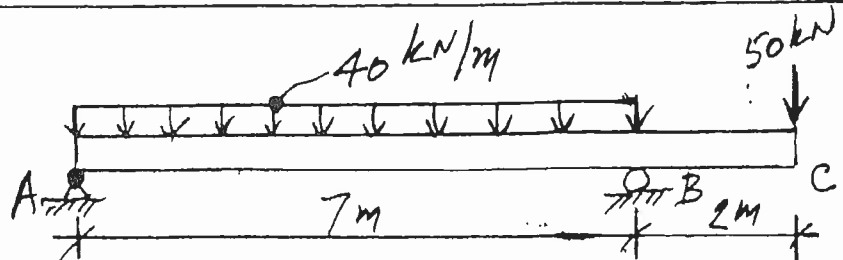

FIGURE B2
- B2. A overhanging reinforced concrete beam is loaded as shown in Figure B2. Determine the dimensions of its rectangular cross-section and the steel reinforcements to satisfy moment and shear. Show the layout of the reinforcing steel. Take into account the self-weight of the beam. (Use  $f'_c = 35$  MPa and  $f_y = 400$  MPa.)